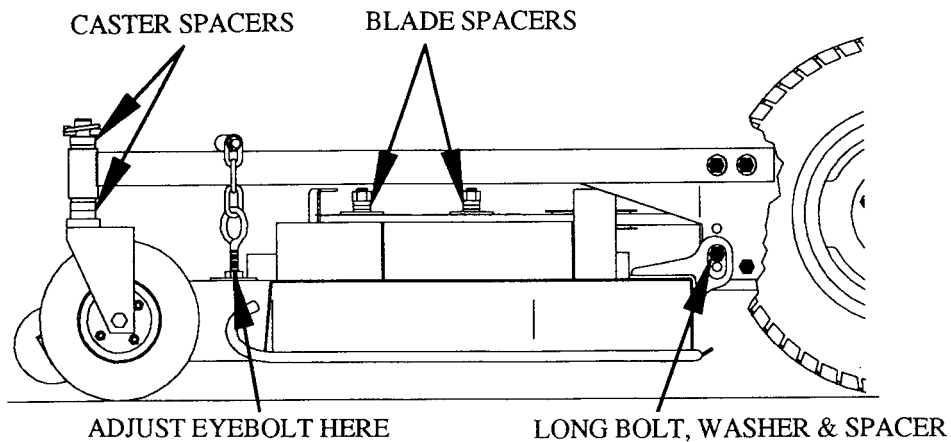

FIG. 2
1. Refer to Fig. 2 on page 11 for the desired height of cut settings.